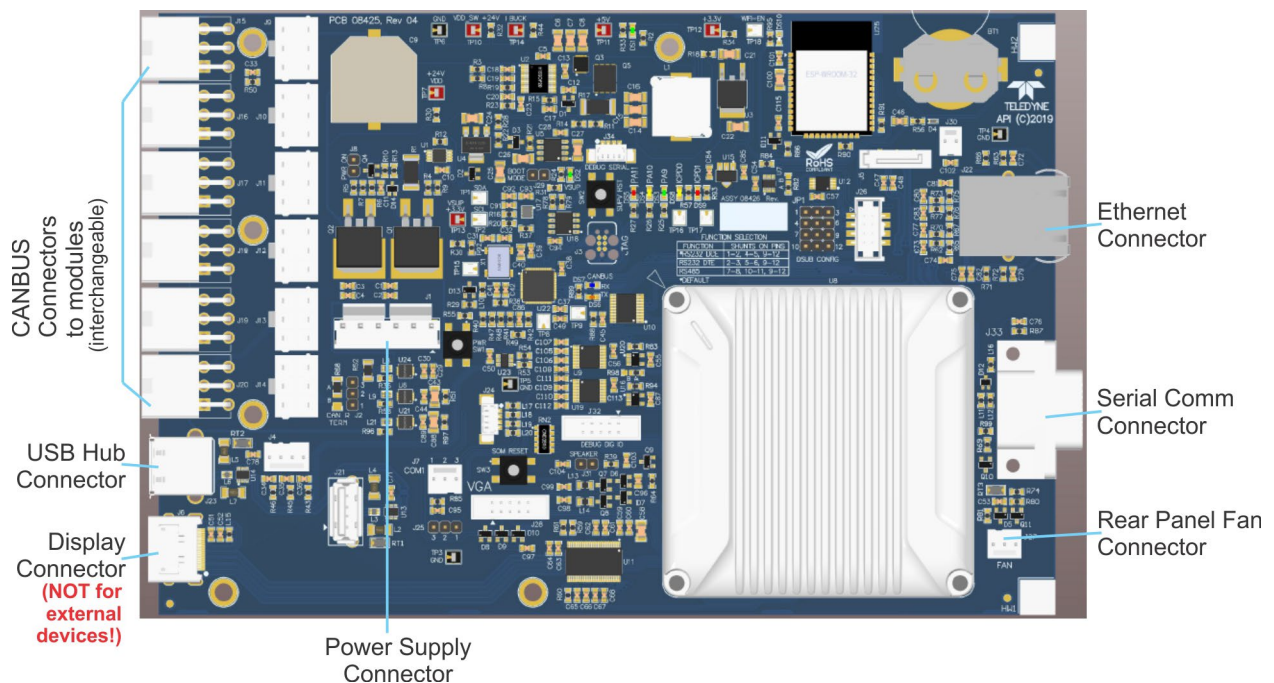

Figure 5-13. Mainboard Connectors
- Last, check that the cable running from the power supply is properly seated in its connector at J1 on the Mainboard (Figure 5-13), and use a voltmeter to check TP7 on the Mainboard (Figure 5-8).